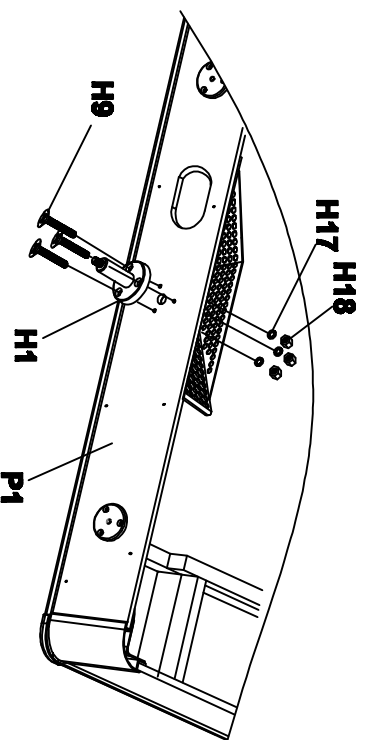

FIGURE 2
3. Attach the axle bolt H1 to the end panel of the pool table using bolts H9 , washer H17 and lock nut H18 as shown in FIGURE 2.